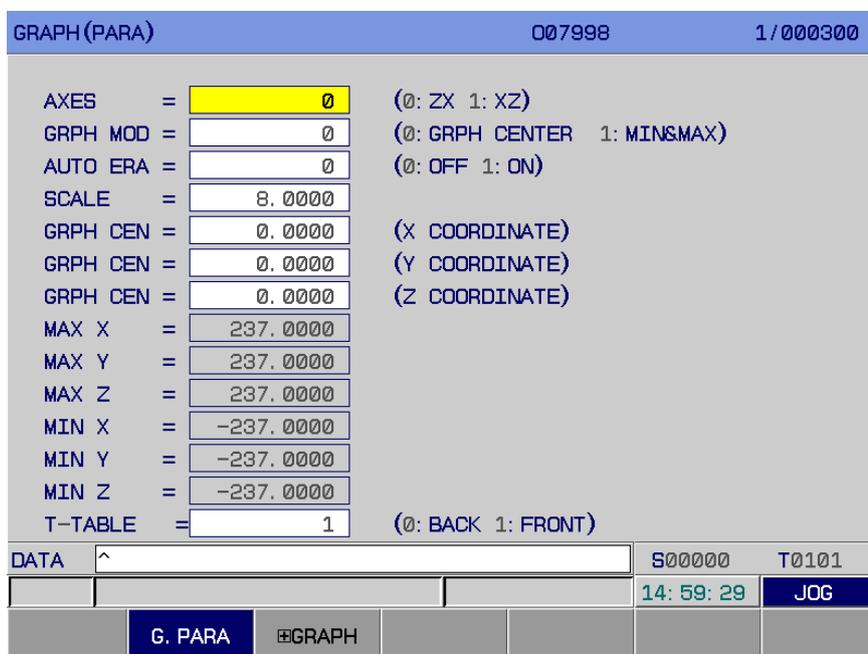

Fig. 3-5-1
Press key to enter the graphic page which consists of two subpages: **【G. PARA】** and **【+GRAPH】**. They can be switched between each other by corresponding soft keys. (See Fig.3-5-1)
1) Graphic parameter page: Press soft key **【G. PARA】** to enter this page, see Fig.3-5-1.